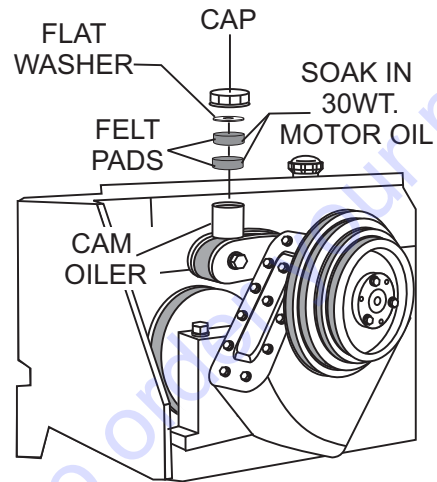

Figure 28. Cam Oiler (Pads)
1. Remove the cam oiler cap and flat washer as shown in Figure 28.